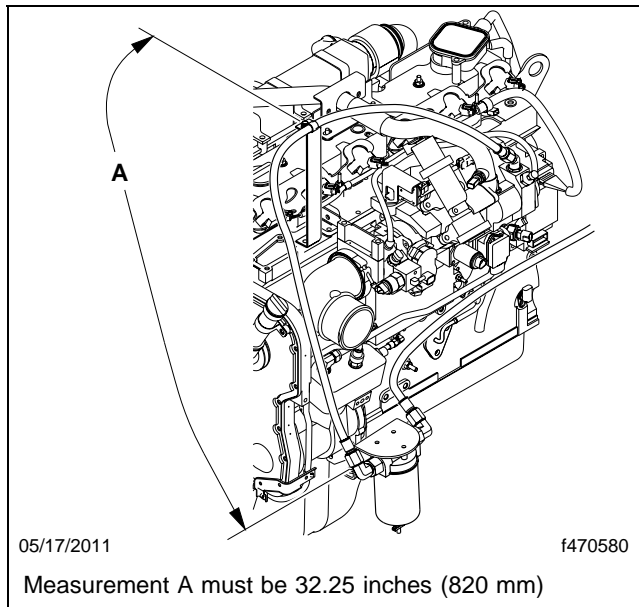

Fig. 13, Fuel Line Installation Measurement
13. Measure the distance from the connection at the fuel filter to the P-clamp. See **Fig. 13**. It must be 32.25 inches (820 mm).